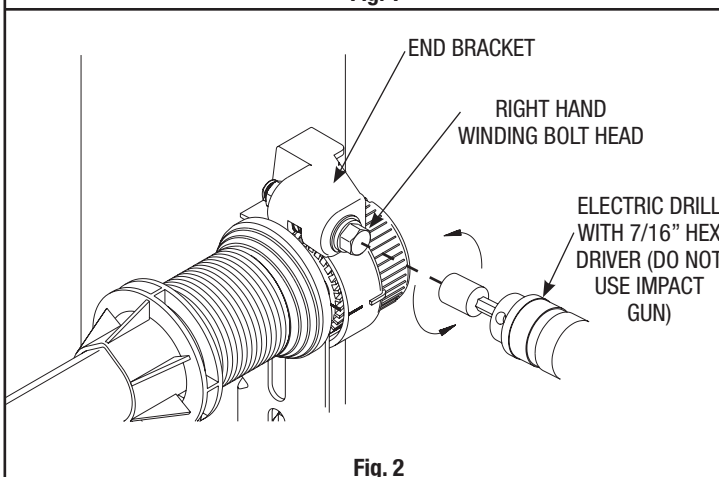

Fig. 2
Step 2: Using an electric drill (High torque / gear reduced to 1300 rpm preferred) with a 7/16" hex head driver, unwind the right hand winding bolt head counterclockwise (Fig. 2) and count the number of turns the mark on the drive gear passes the adjacent mark on the end bracket. Referencing the chart below, by door height, stop unwinding the spring once the counted turns have reached the listed number of turns.